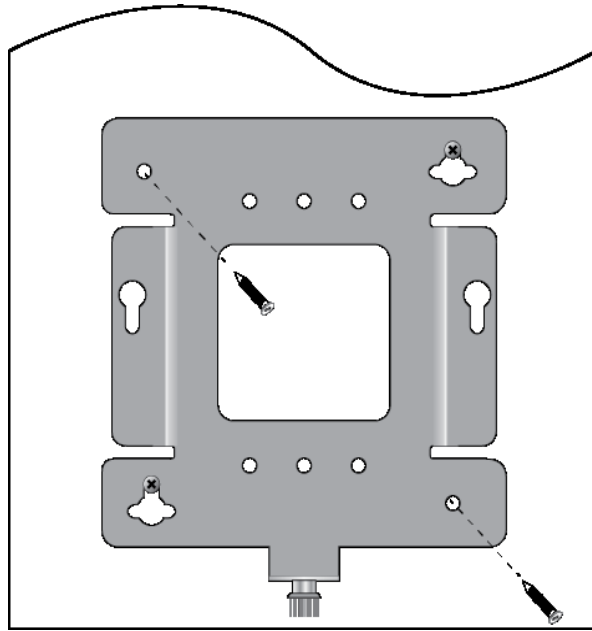

Figure 25. Securing the Wall Mounting Bracket
9. Install and tighten two M4 screws (not provided) in the holes prepared in Step 8. Refer to Figure 25. The bracket installation is now complete.